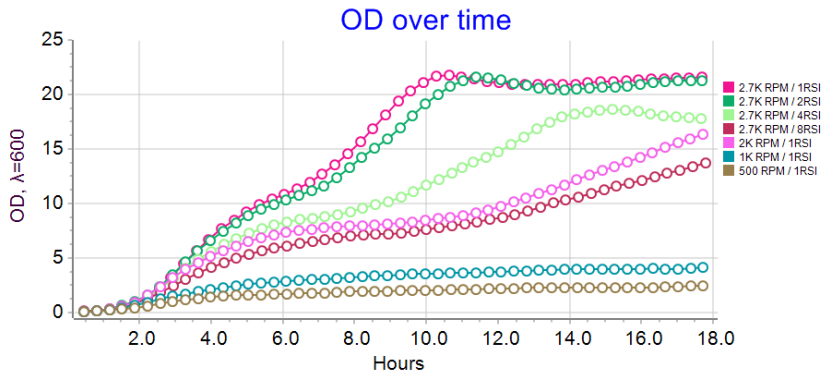
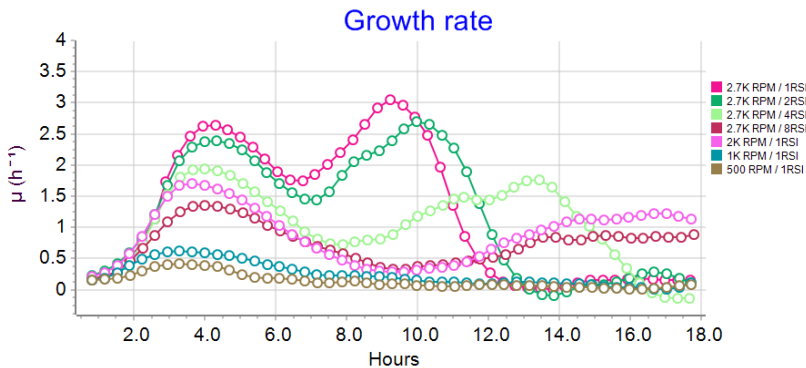

Figure 5. Influence of Interval of Reverse Spinning and RPM on the Growth kinetics ($\Delta OD_{\lambda=600nm}/\Delta t$) vs Time of fermentation (h).
Figure 6. Influence of Interval of Reverse Spinning and RPM on the Growth kinetics ($\Delta OD_{\lambda=600nm}/\Delta t$) vs Time of fermentation (h).
It is known that aeration affects the growth and growth rate of aerobic microorganisms. The RSI and RPM affect the rate of oxygen uptake in the bioreactor. Results obtained in fig. 5 and fig. 6 indicate that the maximum rate of cell division is detected at RSI of 1 s^{-1} at a speed of 2700 rpm. The increase of pause between reverse spins reduces cell growth rate and OD yield, reaching ~44% of the maximum value (RSI 1 s^{-1}), when RSI is 8 s^{-1} .
9.2.1. Legend of experiment (fig. 5.): Multi-channel bioreactor RTS-8 plus was used with 850 nm laser, volume of Terrific Broth (TB) in 50 ml Falcon tube was 10 ml, RSI 1, 2, 4, 8 s^{-1} , MI 10 min, RPM 2000, temperature 37°C , TPP Bioreactor vessels.